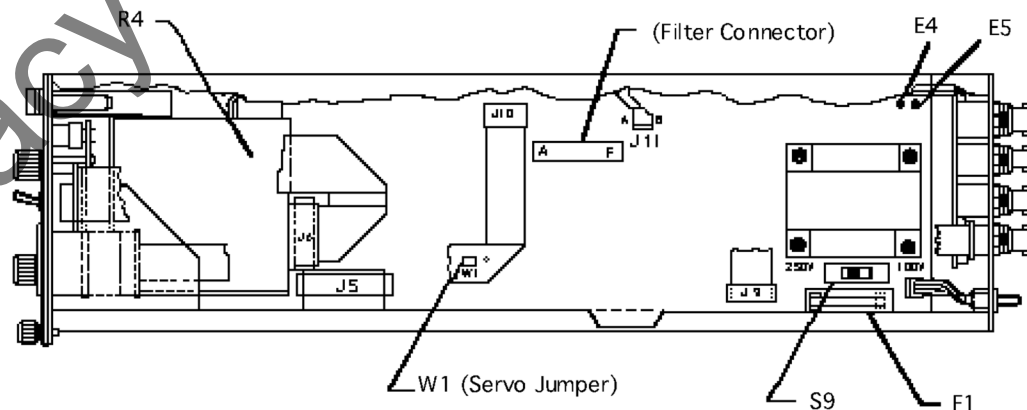

FIGURE 3-1: INTERNAL CONTROLS
The chassis is connected to the third wire ground of the power plug. Insulated guide rails in the Model 4948 rack adapter ensure electrical separation of the amplifier signal grounds from other amplifiers.. To prevent pickup of stray electrical noise, it may be required to connect the signal output ground to third wire ground via external equipment or chassis ground. This also may be done by soldering a jumper between E4 and E5 pads on the circuit board (see Figure 3-1).
- K. The Servo output may be selected for 10mV/g or 100mV/g by a jumper clip on the main circuit board. The Servo output is independent of the full scale g range selected. The top cover must be removed to set the servo jumper clip (see Figure 3-1).